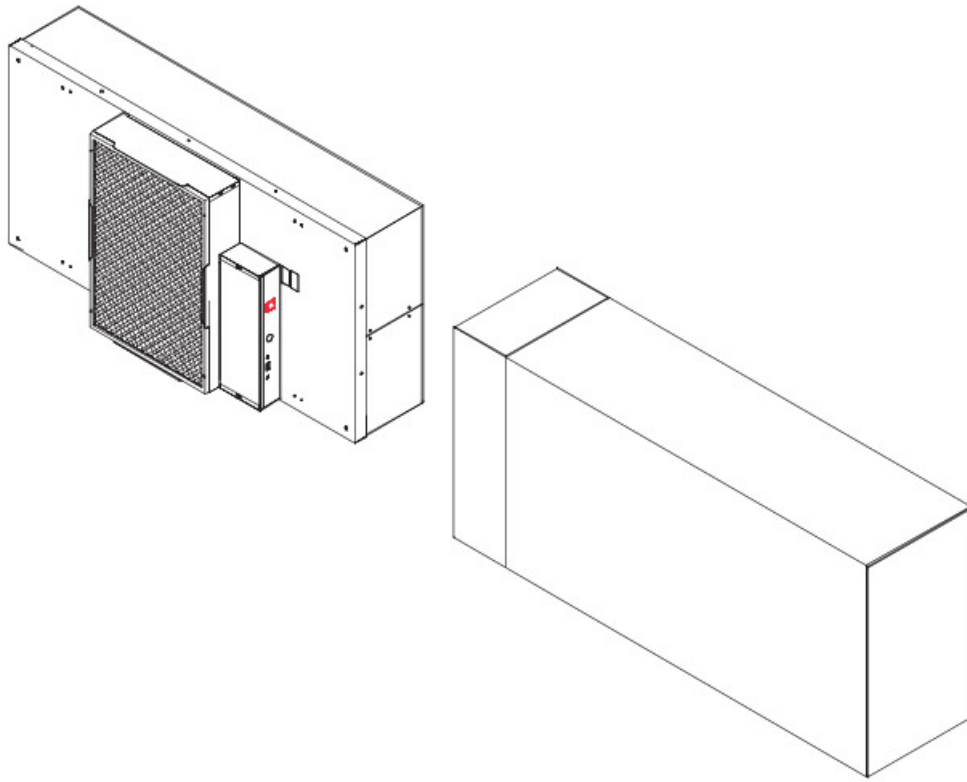

Figure 1: Unboxing
Step 1. Carefully remove the unit from the shipping carton and inspect for any damage that may have occurred during transportation (See Figure 1). Note: When ordering FFDR and FFDRA units, the HEPA filters may be shipped separately to be installed into units after the fan box has been installed.